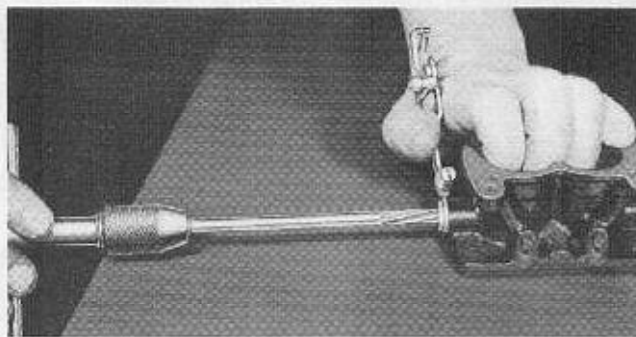

Fig. 26
**34** Line ream throttle shaft bushings with 9644-A reamer as shown in Fig. 26.
- (4) 40-9586 Screws—throttle plates